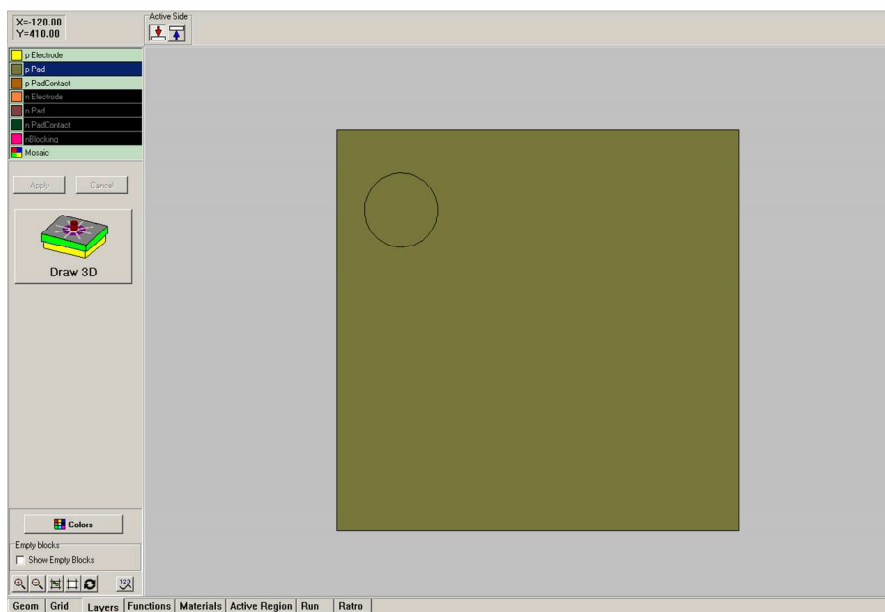

Fig. 29
**p-pad.** Area of the pad on p-electrode (see Fig. 29). This layer should lie inside the p-electrode.